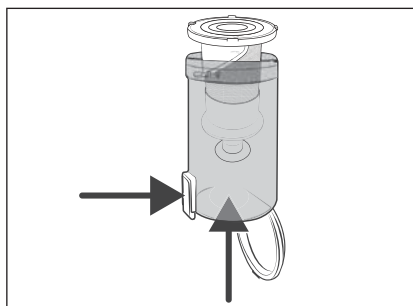

Fig. 23
- 3) Remove the stainless steel filter **6** from the dirt container **7** by pressing the dirt container lid release button **8**. Then slide the stainless steel filter **6** out of the dirt container **7** from below (see Fig. 23).